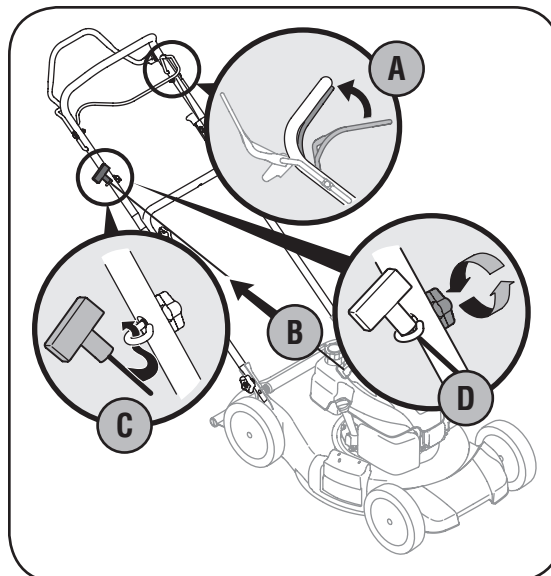

Figure 3-3: Pull recoil starter through rope guide and tighten.
3. The rope guide is attached to the right side of the upper handle. Loosen the wing nut which secures the rope guide. See Figure 3-3.